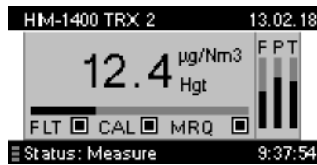

Fig. 4.2 Main screen
Once the device has started up and the initialisation process is complete, the current measuring instrument status is shown on the main screen (Fig. 4.2) on the operating panel. The display will start by showing the current measured value for the total mercury content  $Hg_{total}$ .
- Pressing the F1 key always takes you immediately back to the main screen (Fig. 4.2) as the defined starting point. You can then start the menu system from this point by pressing F4. The Down and Left keys can be used to select one of the 4 additional main menus. Pressing the F4 key takes you to the selected sub-menu. The other sub-menus are accessed in the same way. The F2 key can be used to access the higher-level menu.
Once the device has been switched on and the software initialization is complete, the display moves to the main screen in menu branch 0 (see Fig. 4.2) and stays there.